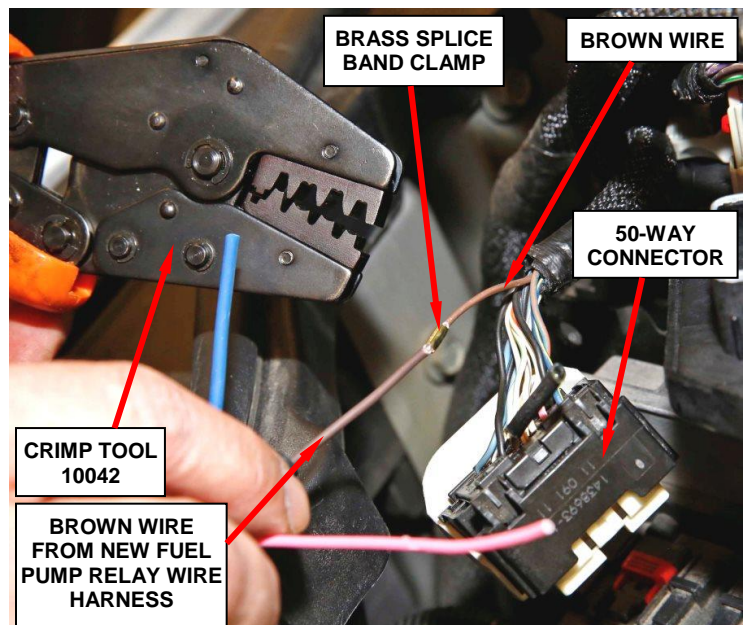

Figure 9 – Crimp and Solder Brown Wires
c. Using the supplied brass splice band clamp and crimp tool 10042, crimp the brown wire that had the insulation stripped on the wire harness side to the matching brown wire on the new fuel pump relay harness (Figure 9).